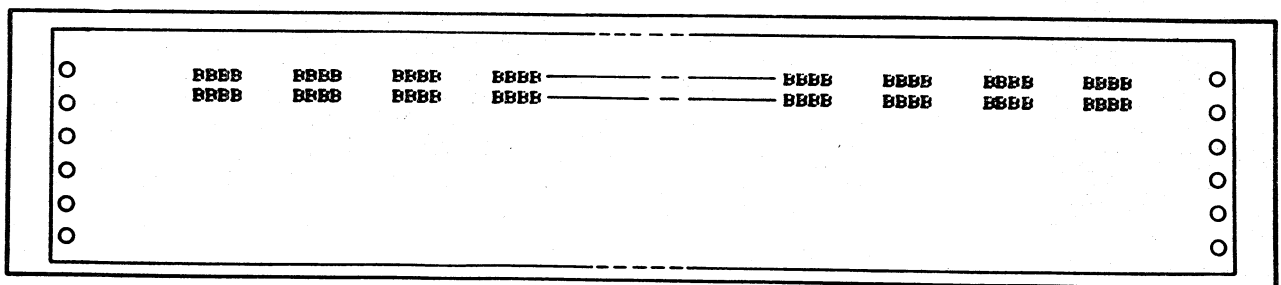

FIGURE 4-8. TEST PRINT SAMPLE
19. This switch causes the printer to print the character "B" alternating with blanks across the page and then performs a single line advance (Figure 4-8). Use this pattern to check vertical and horizontal alignment of the forms.